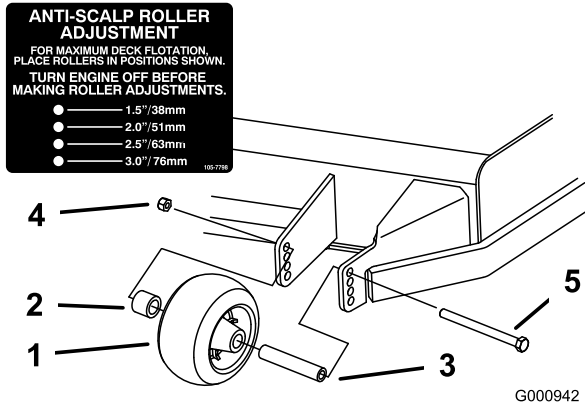
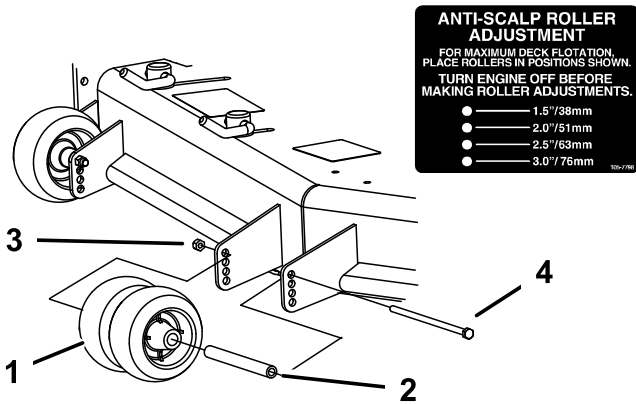
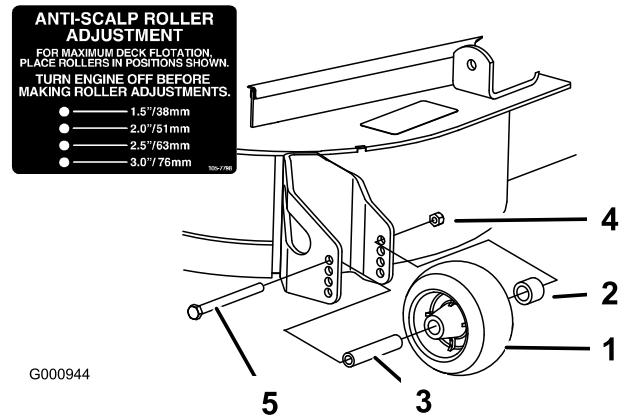

Figure 20
Figure 21
Figure 22
- After adjusting the height-of-cut, adjust the rollers by removing the flange nut, bushing, spacer, and bolt (Figure 20 , Figure 21 and Figure 22).
Note: The two middle rollers will not have a spacer (Figure 21).
- Install the flange nut bushing, spacer, and bolt. Torque to 40-45 ft-lb (54-61 N-m) (Figure 20 , Figure 21 and Figure 22).